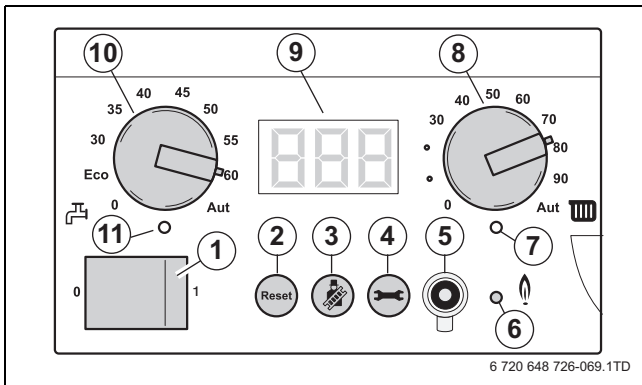

Fig. 97 BC10 basic controller
- ▶ Set the upper CH flow temperature limit for heating mode (→ table 17) using the “Maximum CH flow temperature” dial (→ fig. 97, [8]).
The setting at the BC10 cannot be adjusted via the menu but must instead be set via the “Maximum CH flow temperature” dial (→ fig. 97, [8]).